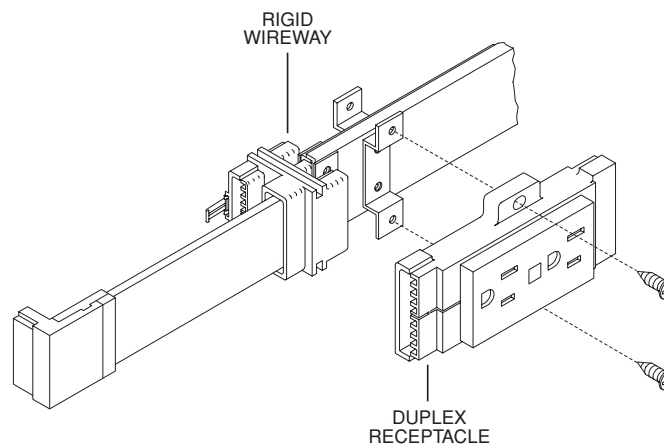

FIG. 1
3. To install the individual receptacle, slide the receptacle female inserts into place in the corresponding male part of the rigid wireway. Align the slots (top and bottom) of the receptacle with corresponding holes in the rigid wireway. Attach together with (2) provided #8-32 UNC x 7/16" PH tapping screws (Figure 1).